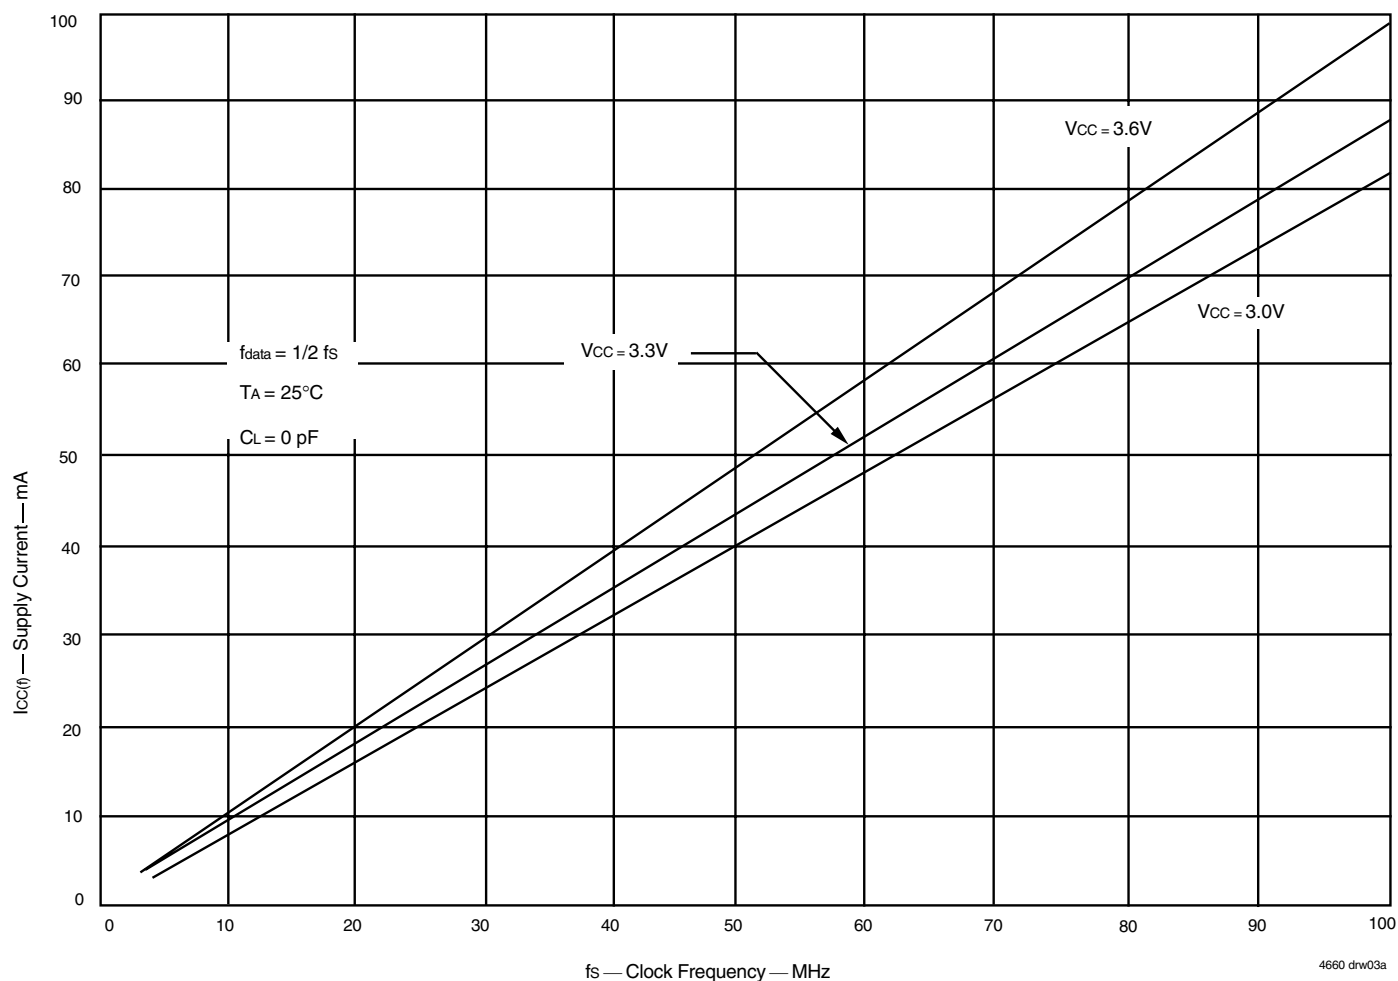

Figure 1. Typical Characteristics: Supply Current (I_{CC}) vs. Clock Frequency (f_s)
- For additional I_{CC} information, see Figure 1, *Typical Characteristics: Supply Current (I_{CC}) vs. Clock Frequency (f_s)*.
The $I_{CC}(f)$ current for the graph in Figure 1 was taken while simultaneously reading and writing a FIFO on the IDT72V3652/72V3662/72V3672 with CLKA and CLKB set to f_s . All data inputs and data outputs change state during each clock cycle to consume the highest supply current. Data outputs were disconnected to normalize the graph to a zero capacitance load. Once the capacitance load per data-output channel and the number of these device's inputs driven by TTL HIGH levels are known, the power dissipation can be calculated with the equation below.
With $I_{CC}(f)$ taken from Figure 1, the maximum power dissipation (P_T) of these FIFOs may be calculated by: